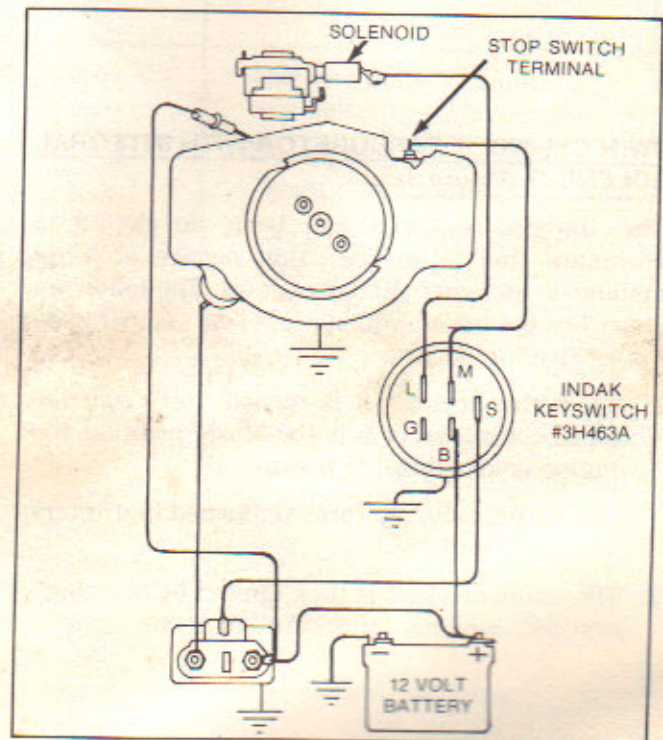

Figure 6
**IMPORTANT:** A twin cylinder carburetor, equipped with the integral solenoid, requires a continuous power supply from a 12 volt battery, figure 6. If the battery is "dead," the solenoid can not be activated, preventing fuel from flowing into the high speed circuit. If "jump started," the engine will run only at idle speed because the idle speed circuit is totally independent of the high speed circuit.